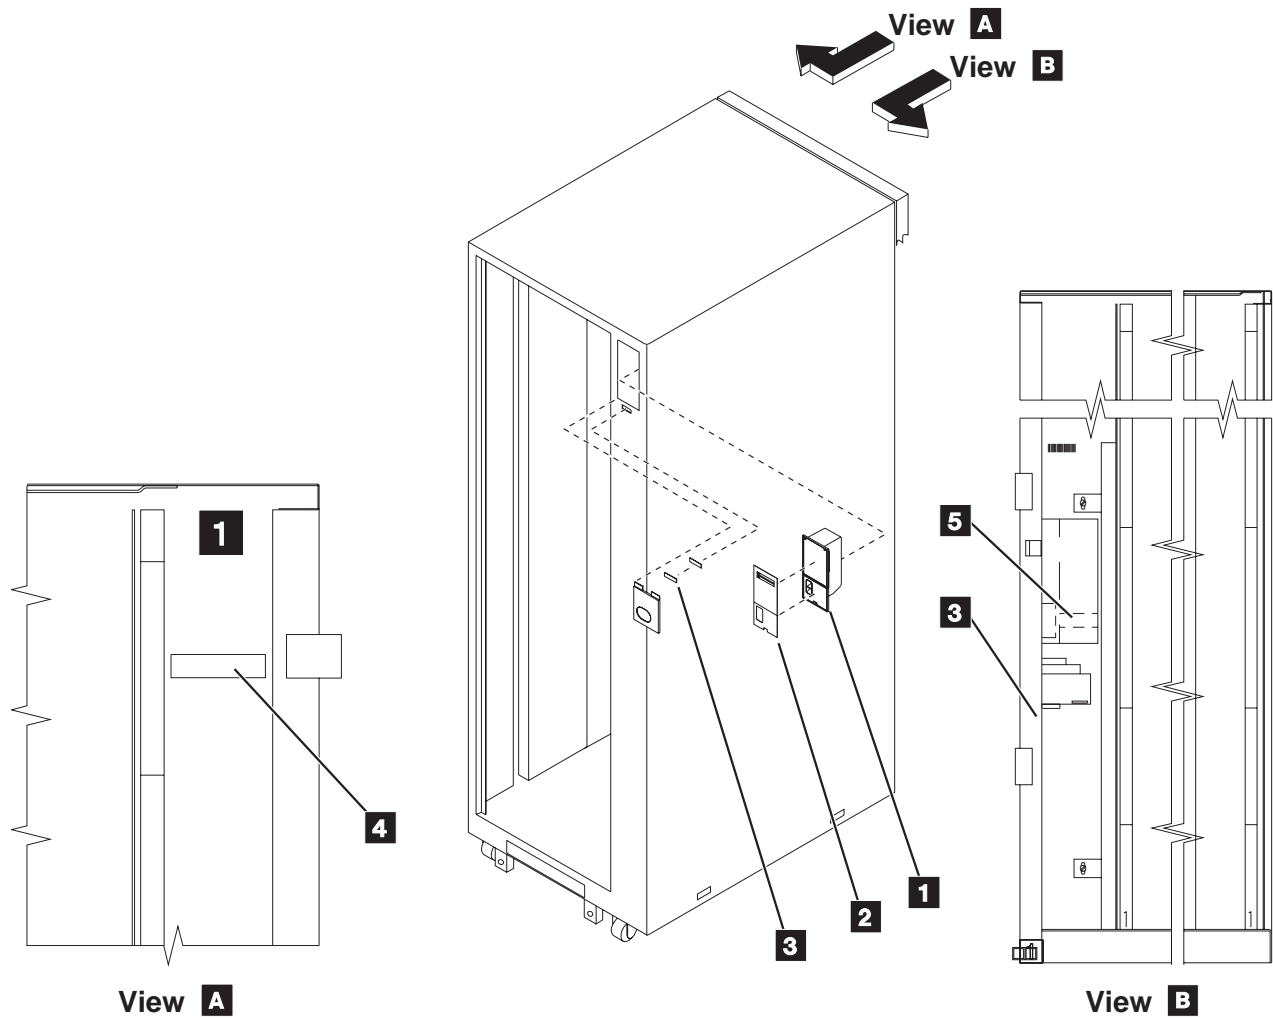

Figure 11. FC 5043, FC 5044 Label Locations
- 12. Several labels will be provided to identify this new feature rack. Use Figure 11 to affix the labels in specific locations on the FC 5043 or FC 5044 frame.